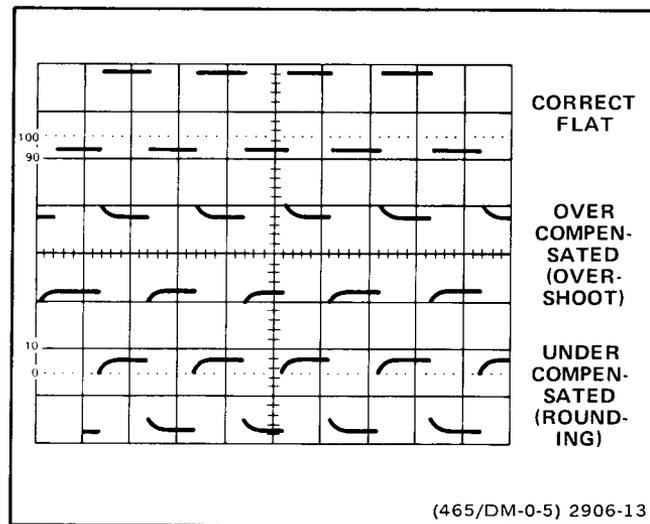

Figure 13. Probe compensation.
6. Check the waveform presentation for overshoot and rounding (see Figure 13). Readjust the probe compensation, if necessary, for flat tops on the waveforms. Refer to the instructions supplied with the probe for the compensation adjustment procedure.